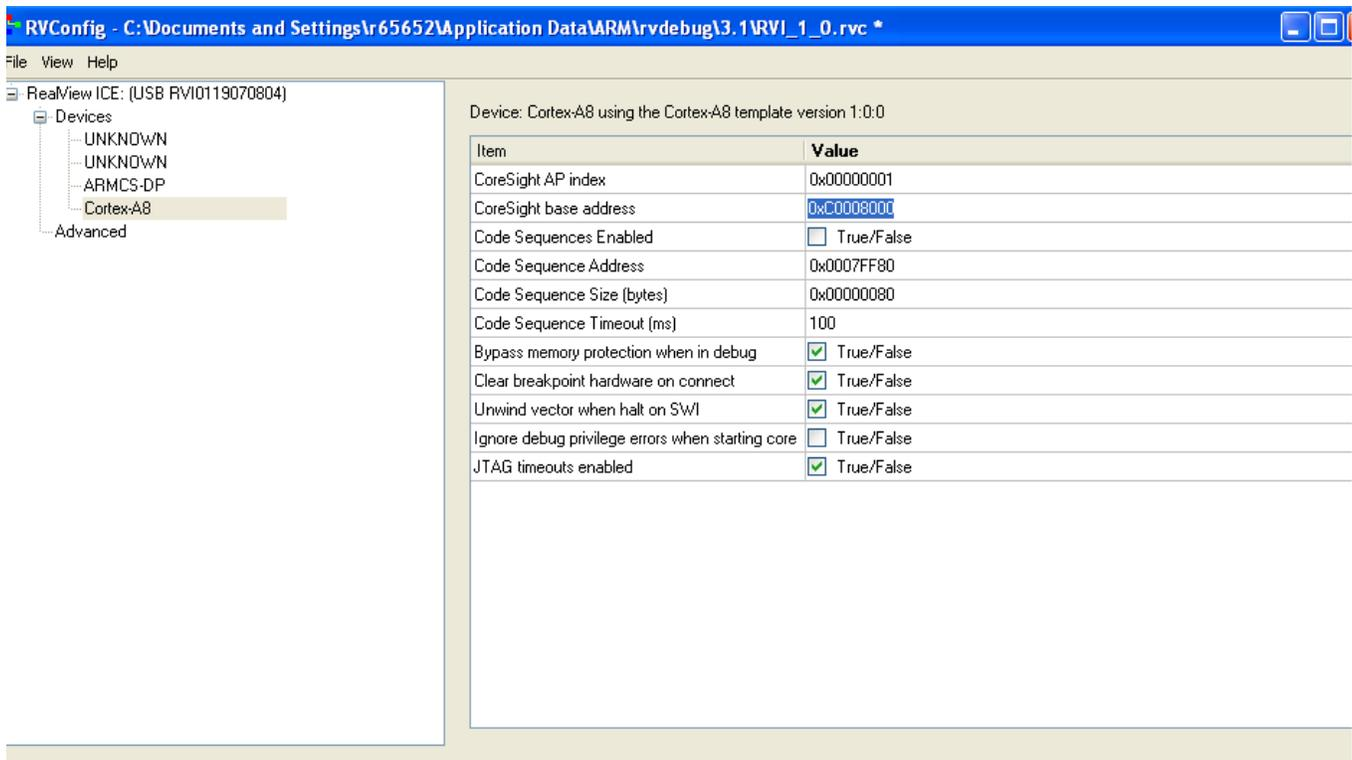

Figure 2-2. Updating the CoreSight base address
3. Update the CoreSight base address (see Figure 2-2):